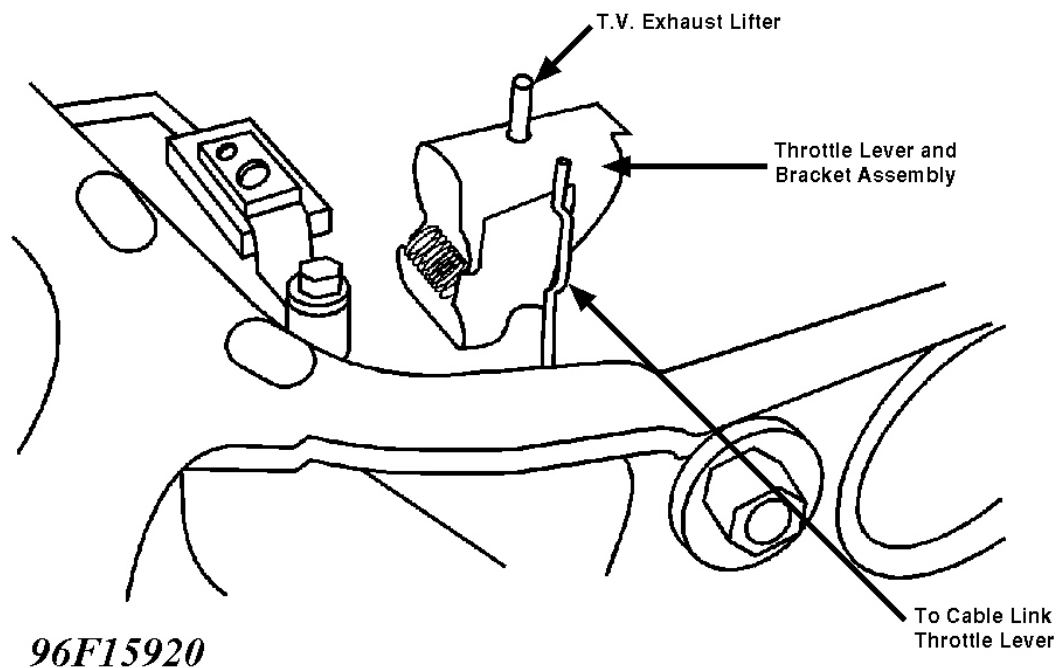

Fig. 43: Throttle Lever & Bracket Installation
9. Install manual detent roller and spring assembly, locating tang in valve body and roller on inside detent lever. If removed, install throttle and bracket assembly spring on top of lifter. Install link on throttle. Ensure link is hooked. See **Fig. 43**. Install throttle lever and bracket assembly, locating slot in bracket with roll pin. Align lifter through valve body hole and link through T.V. linkage case bore. Install retaining bolt.